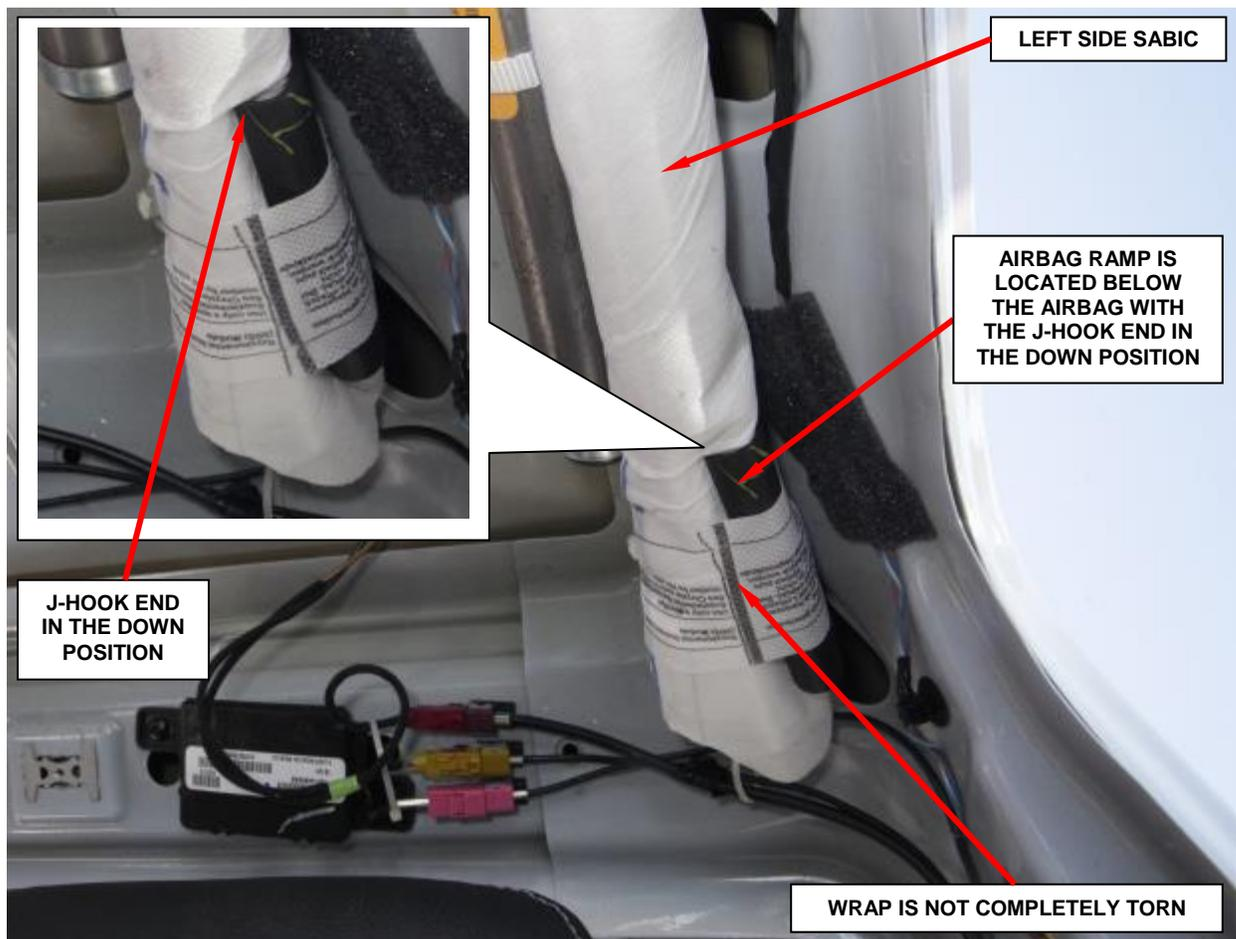

Figure 25 – Passed Inspection: Airbag Ramp and Wrap
- Vehicles that **do not have either airbag ramp out of position or the wrap is not completely torn on either side**, continue with **Section D. Install Foil Patches** (Figure 25).